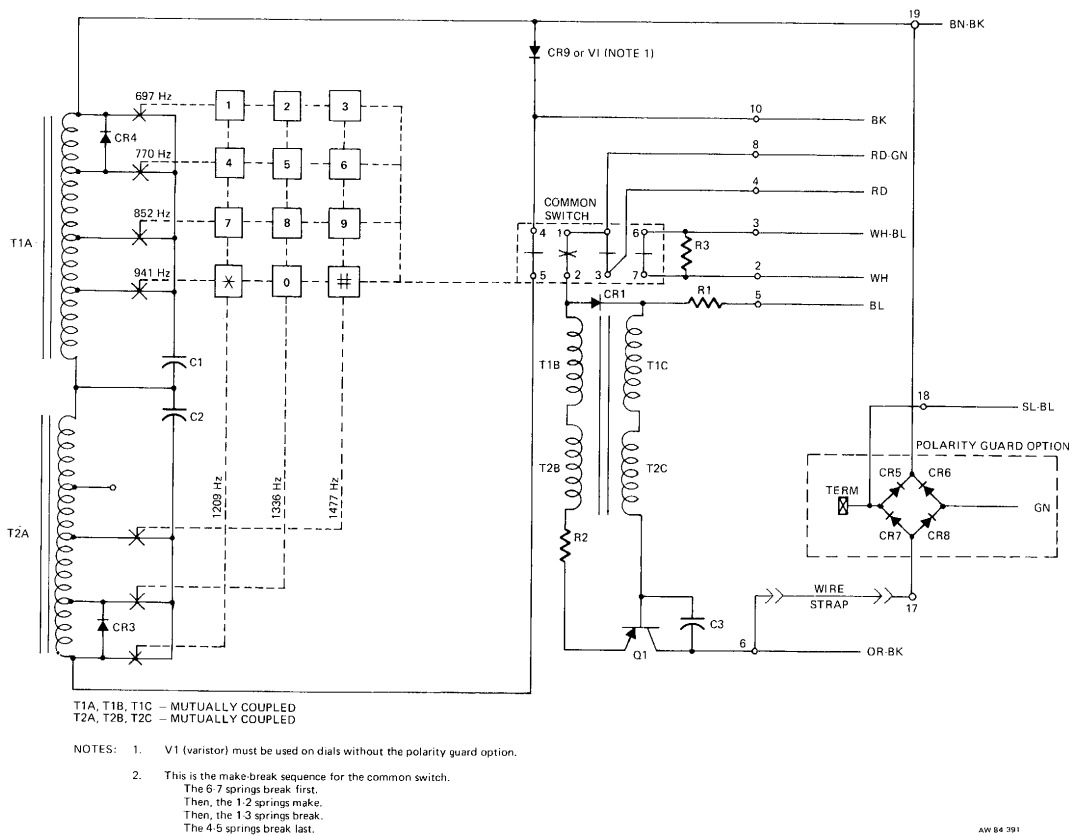

Figure 3: Model 32 Pushbutton Dial, Schematic
**2.06** Pressing a pushbutton rotates one of the horizontal (row) cranks and one of the vertical (column) cranks. The vertical cranks operate contact springs connected to the high-band coil, and the horizontal cranks operate contact springs connected to the low-band coil. (See Figures 3 and 4.) The horizontal cranks also move the actuator slide that operates the common switch. When a pushbutton is pressed, a single high-band tone and a single low-band tone are simultaneously transmitted through the common switch and polarity guard circuit (Models OPG and OPD).